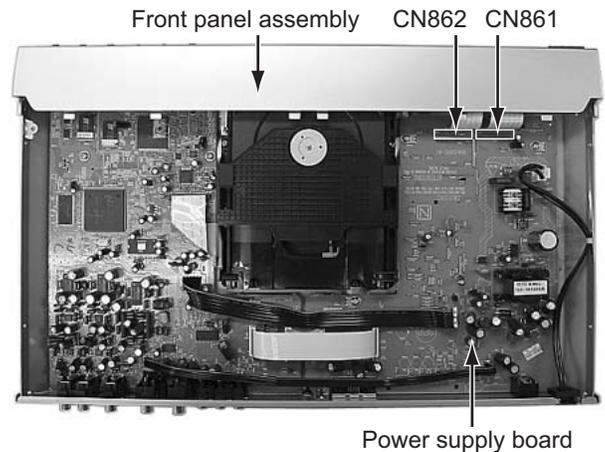
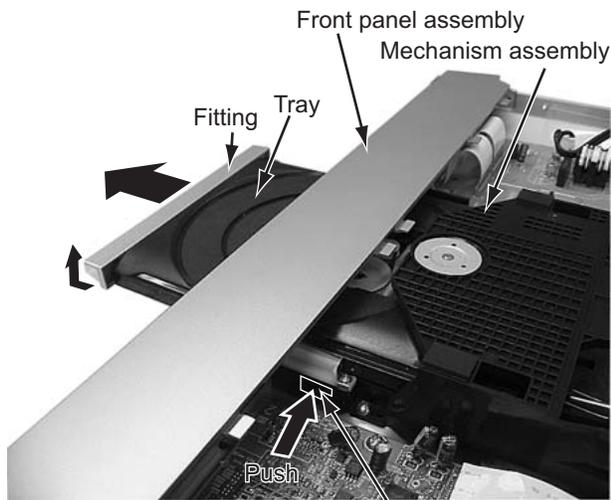
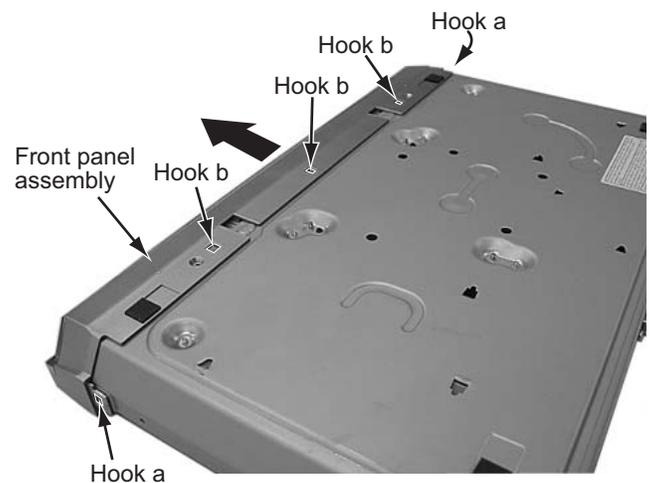

Fig.3
Fig.2
Fig.4
3.1.2 Removing the front panel assembly (See Figure 2, Figure 3, Figure 4)
3.1.3 Removing the mechanism assembly (See Figure 2, Figure 5, Figure 6)
- (1) Insert a kind of screwdriver in a hole located in the right side of mechanism assembly, and push a lever until it cannot be inserted any further. (See Figure 2)
- (2) And then, a tray will come out. Remove the tray in an upper direction, with slightly opening the lower part of fitting in an outward direction. (See Figure 2)
- (3) Remove the three screws **C** attaching the mechanism assembly.
- (4) The switch on a relay board is made into the “SHORT” side.
- (5) Disconnect the card wire from connector **CN101** on the servo control and signal output terminal board.
- (6) Remove the mechanism assembly by lifting the rear part of the mechanism assembly.